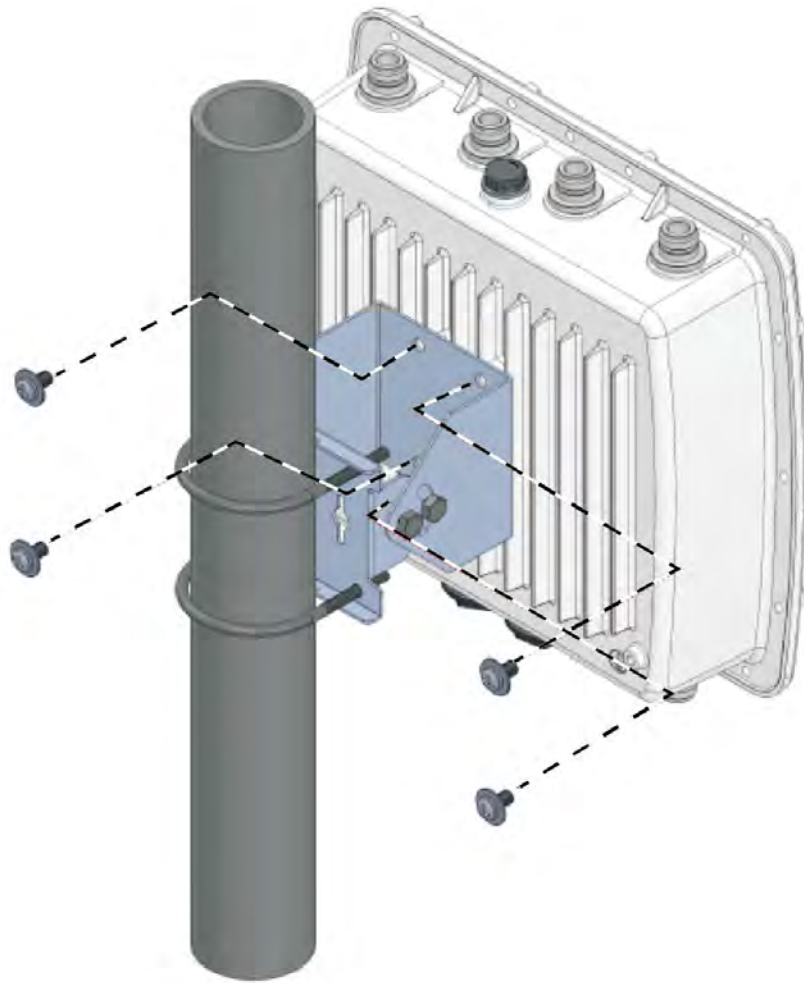

Figure 33. Attaching the Access Point to the Pole-Mount Brackets
3. Attach the access point to the pole-mount bracket with the screws using a Phillips-head screwdriver. See Figure 33 on page 63.